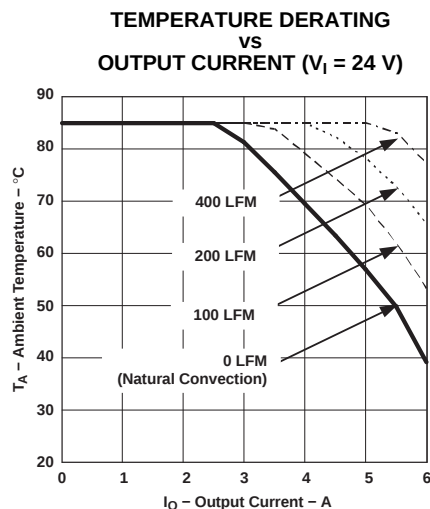
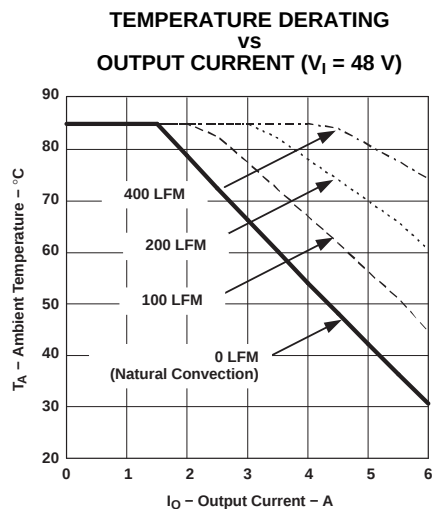

Figure 14.
Figure 15.
- (6) The temperature derating curves represent operating conditions at which internal components are at or below manufacturer's maximum rated operating temperature. Derating limits apply to modules soldered directly to a 100-mm × 100-mm, double-sided PCB with 2 oz. copper. Applies to Figure 14, and Figure 15.